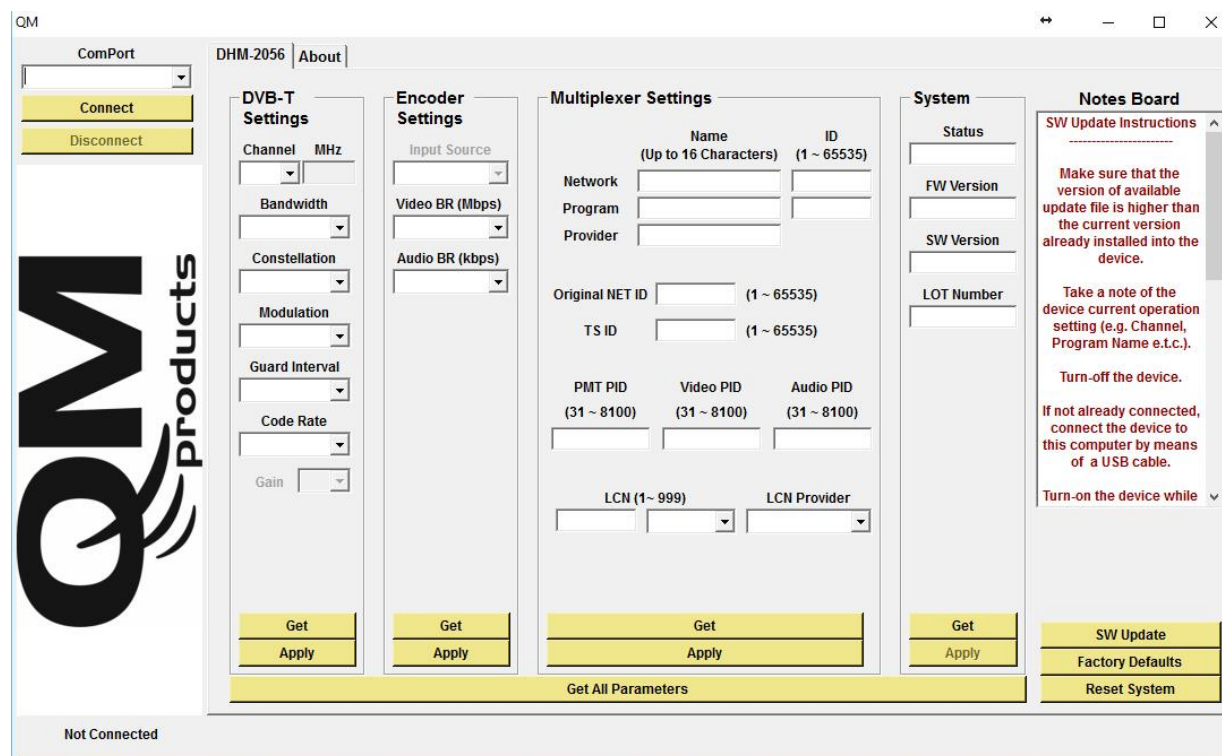

Figure No.2
5. Run the DVProbe.exe file and the main screen will appear (Figure No 2):